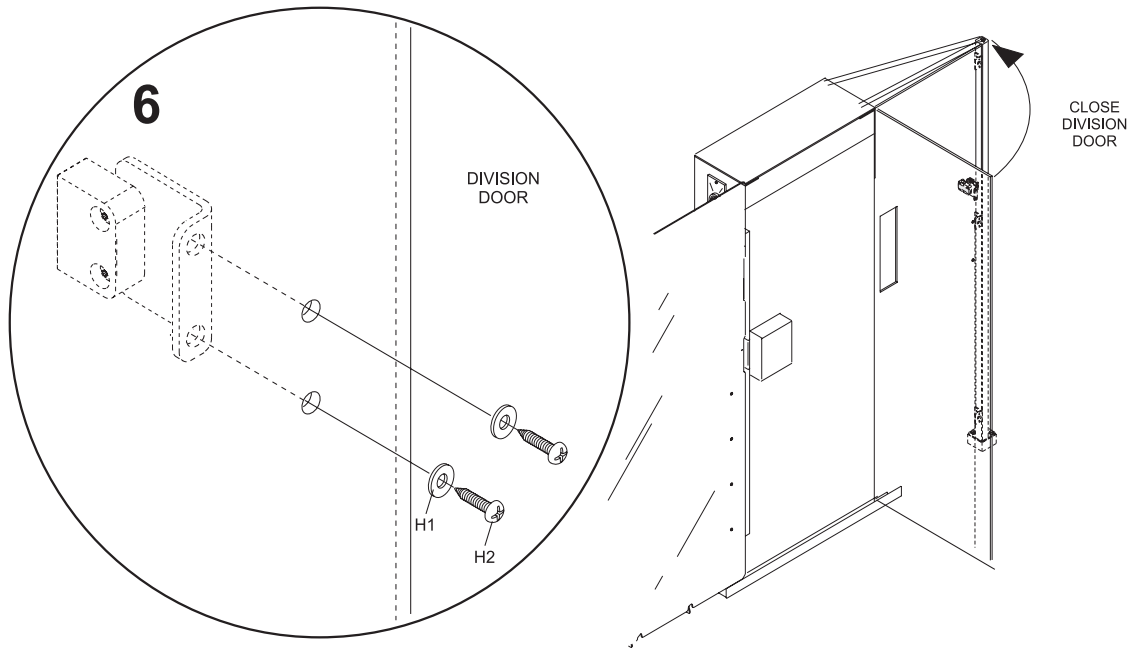

Figure 3
4. Secure interlock assembly to door. Refer to *Figure 3*.